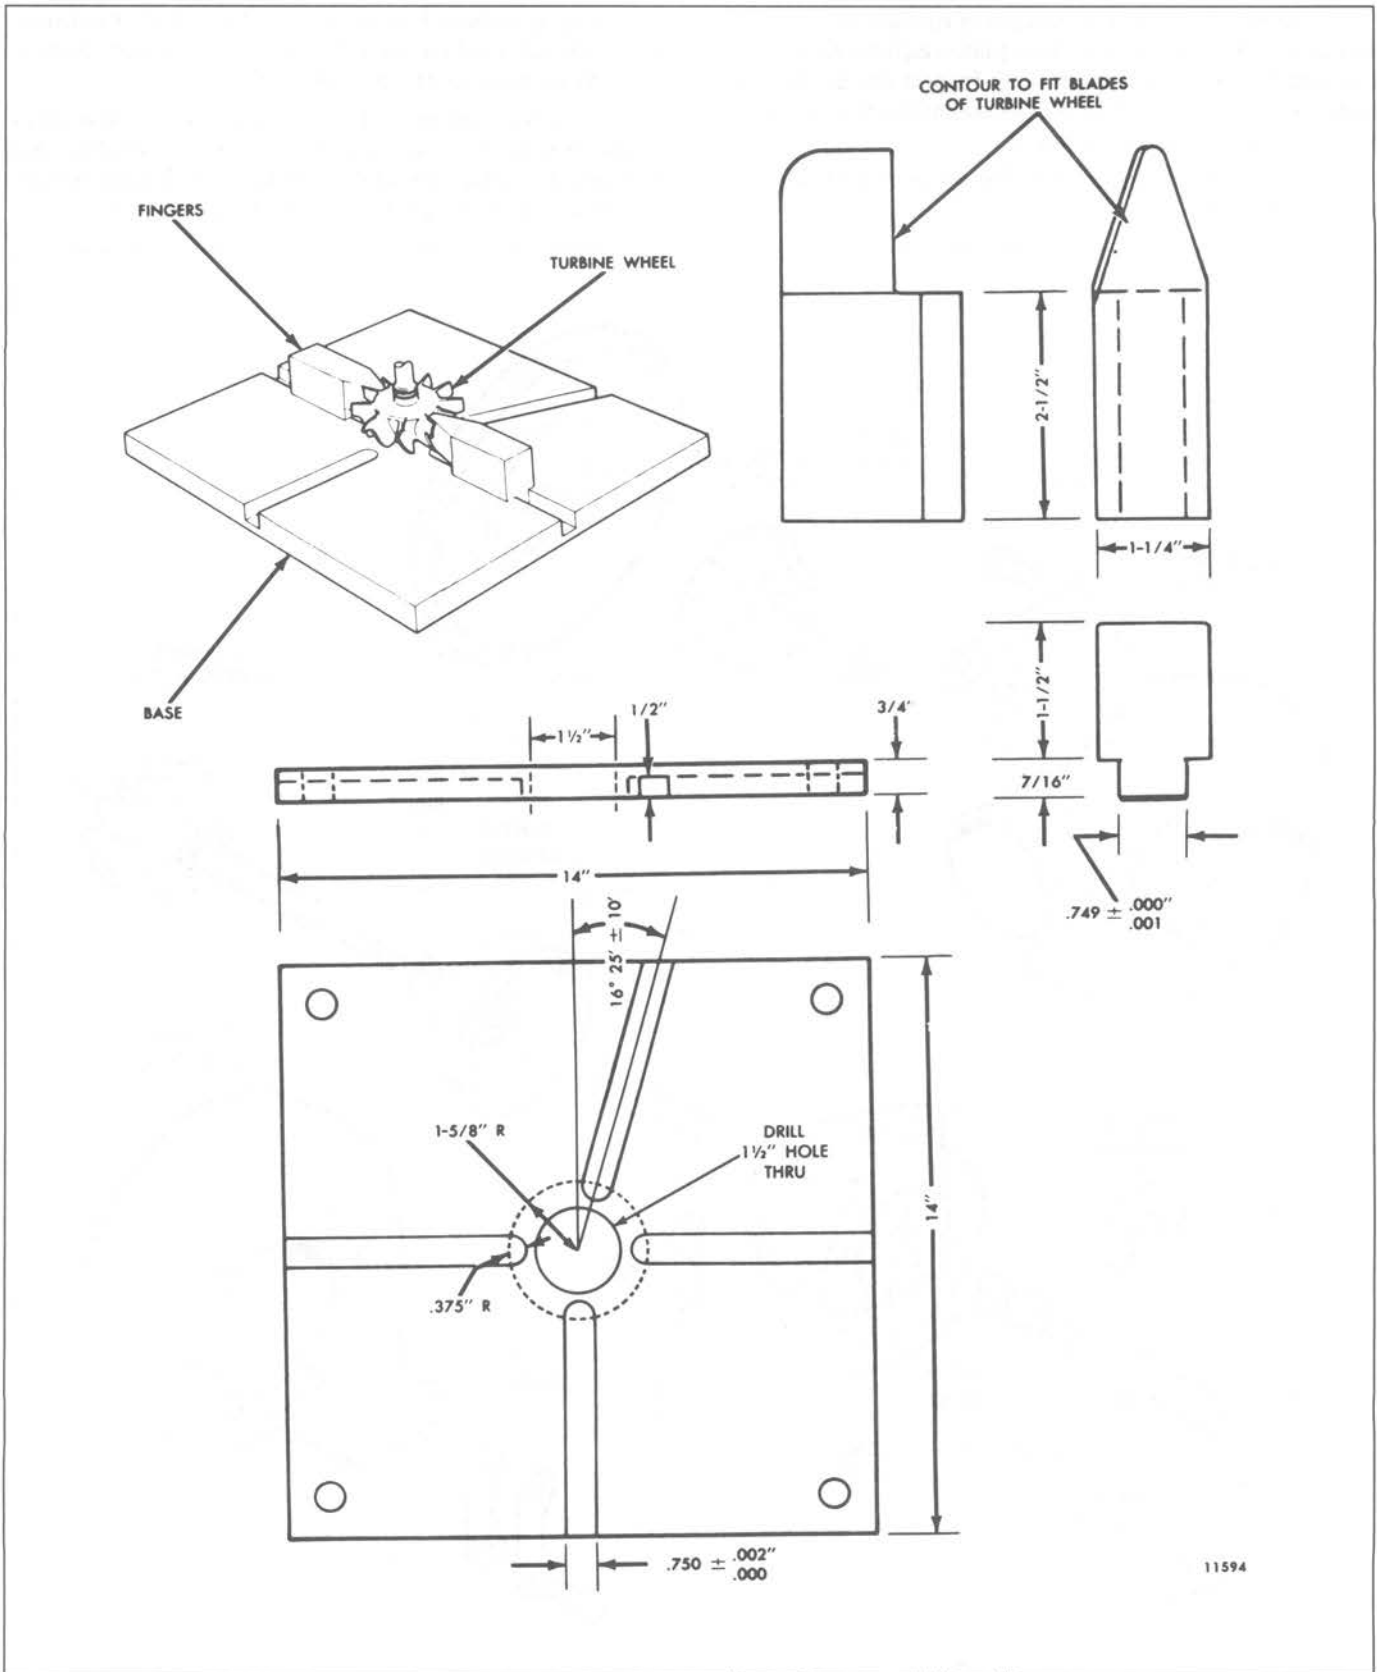

Fig. 10 - Turbocharger Holding Fixture
- Position the turbine wheel (9) of the center housing assembly in a suitable holding fixture (Fig. 10). Remove the wheel nut (7) from the shaft.
11. Place the turbine wheel shaft assembly, shroud, center housing and backplate upright in a suitable holding fixture as shown in Fig. 10.
6. Place the turbine wheel shaft assembly, shroud and center housing upright in a suitable holding fixture, as shown in Fig. 10.